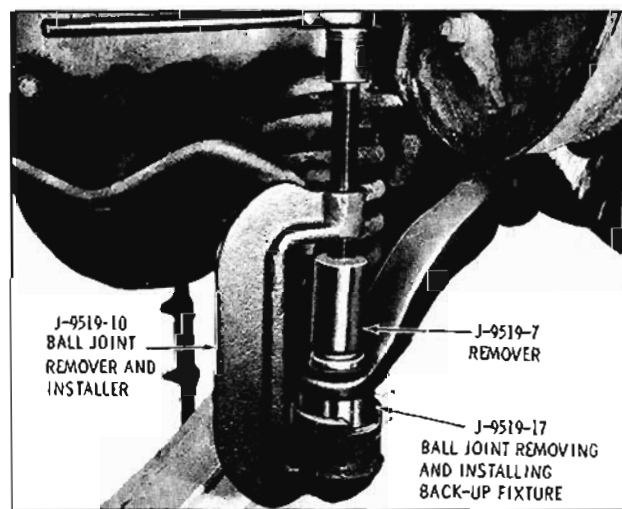

Fig. 9-120 Removing Lower Ball Joint
7. Remove grease fitting, then install tools as shown in Fig. 9-120 and press out ball joint.